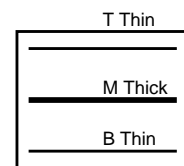

Fig.2
- 4) If the focus at points T and M is as shown in Fig. 2, adjust V DBF in the menu with the front buttons to make the horizontal lines have the same thickness at points T, M and B. And adjust the FOCUS-B VR again to make the horizontal lines sharpest at points T, M and B. (V DBF should not be adjusted when focus at points T and M is optimum.)